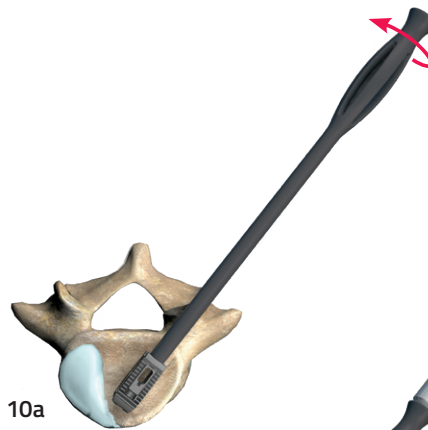

Fig. 10a
2. Attach the **Implant Remover (28-1003)** to the spacer by screwing it into the spacer as shown in **(Fig. 10a)**.